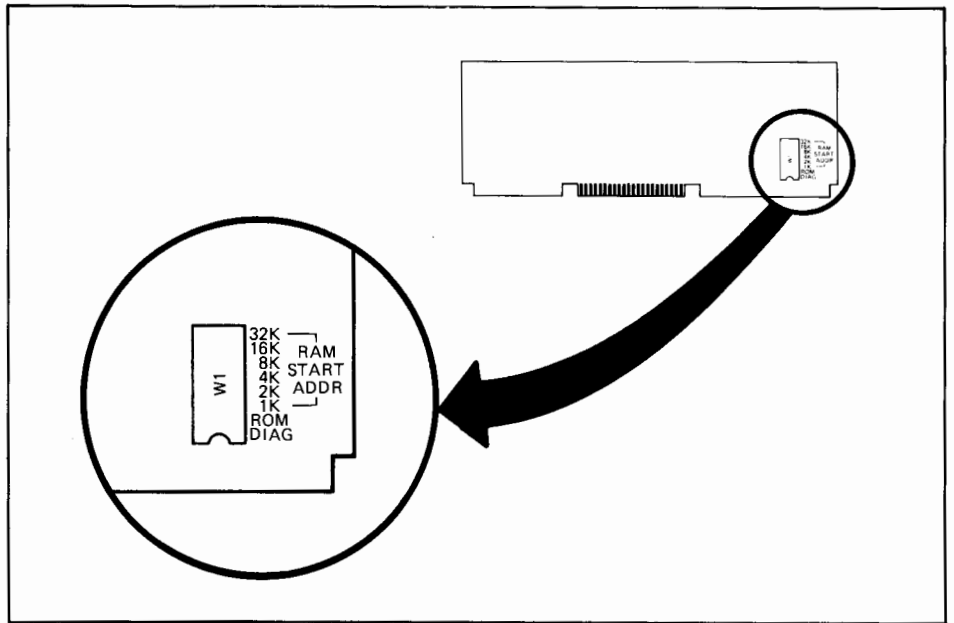

Figure 3-29. Control Store PCA Locations
2. Remove all jumpers from the Control Memory PCA, then place jumpers in the locations labeled RAM START ADR (1K, 2K, 4K, 8K, 16K, and 32K) such that the sum of the labels of locations without jumpers is equal to the starting address of the 1K of RAM memory. (The DIAG and ROM jumper locations are not used.) (See figures 3-29 and 3-30.)